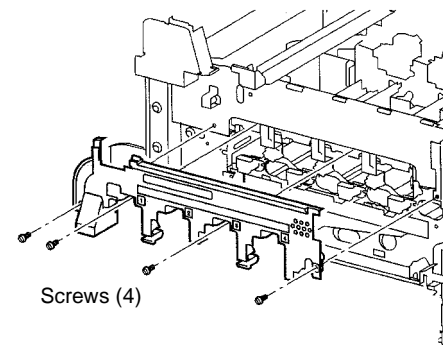

Figure 1 Removing Dispenser Cover
6. Remove Dispenser Cover (Figure 1).
- a. Remove Screws (4).